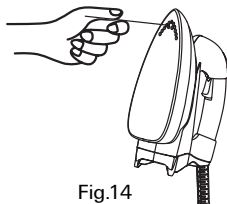

Fig.14
5. Since steam vents are smaller,to protect steam vents being blocked by limescale for long time use,please clean steam vents by a ϕ 1.5mm steel pin after every 3-5 monthes's use.(See Fig.14)